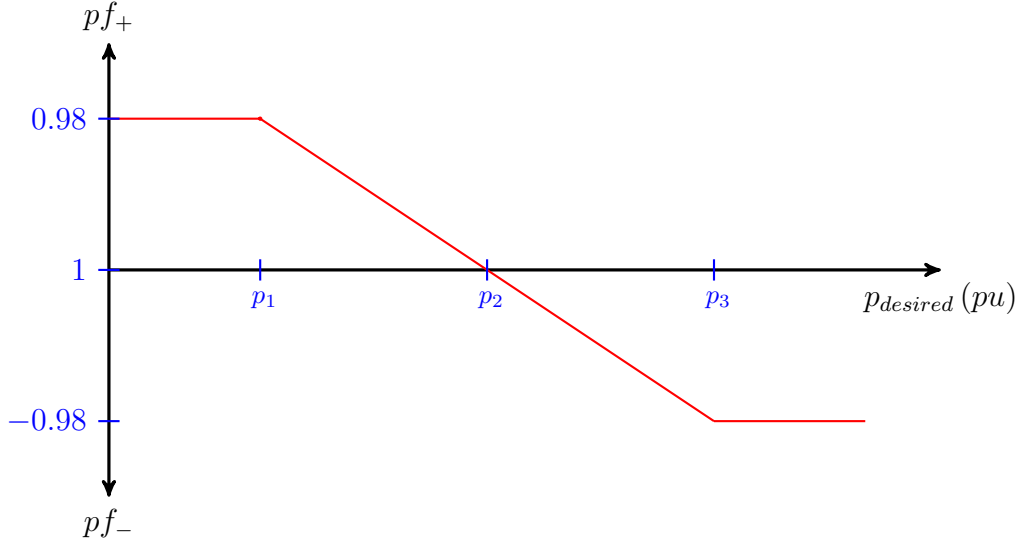
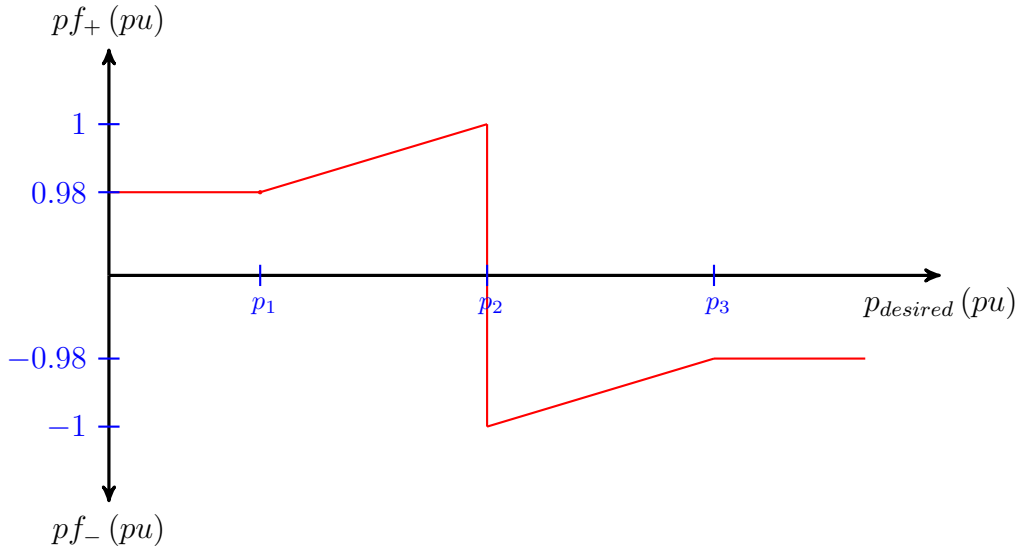

Figure 11: watt-pf curve
Figure 12: watt-pf curve with reference in zero
**Smart inverter watt-pf function** For the smart inverter watt-pf function, the output active power in  $pu$  is applied,  $p_{desired}[t]$ , in the watt-pf curve defined in the *wattpf\_curve* property to obtain the power factor, Equation 59, and then calculate the desired reactive power value in  $pu$ ,  $q_{Dfun}[t]_j$ , according to Equation 60. The Figure 11 shows an example of an user-defined watt-pf curve.
One can notice that the watt-pf curve, Figure 11, has the nominal/reference point in power factor 1 instead of 0. As a result, the user needs to define this watt-pf curve based on a curve that has its reference in power factor equal to 0, according the Figure 12. The discontinuity in  $p_2$  is not a problem due to the reactive power is zero for either power factor equal 1 or -1.